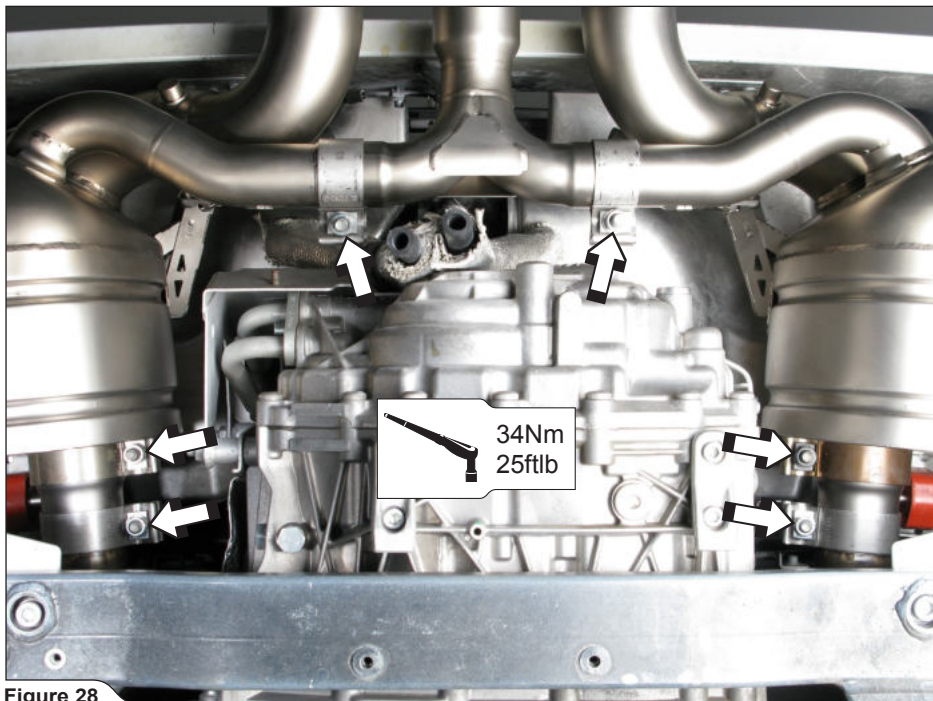

Figure 28
10. **For Slip-On only:** align the collector's outlet in respect to the mufflers' outlets, center Akrapovič Slip-On adapters and tighten all clamps to the specified torque (**Figure 28**).